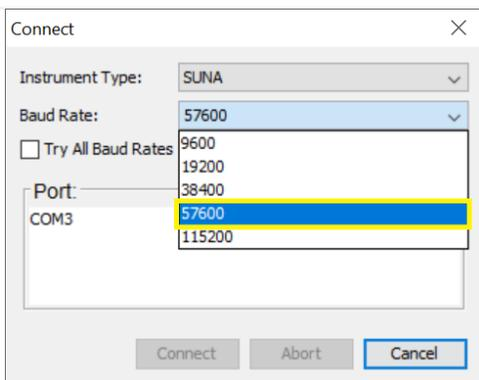
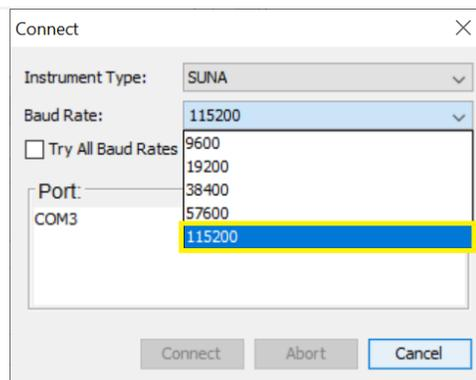

Figure 26. Select 57600 for Wadeable Stream sites
Figure 27. Select 115200 for Buoy sites
**STEP 9 |** Select the baud rate from the dropdown options in the Connect pop-up window. For wadeable stream sites select a baud rate of 57600 (Figure 26). For lake and river sites select a baud rate of 115200 (Figure 27).